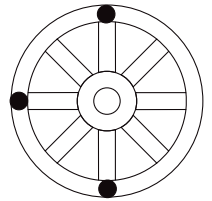

Figure 2
5. Magnetically attach three or four laser line targets to the other pulley in a manner allowing for greatest separation while permitting the projected laser line to strike the targets. Typically, targets are mounted center top, middle aft, and center bottom of the pulley as shown in Figure 2.